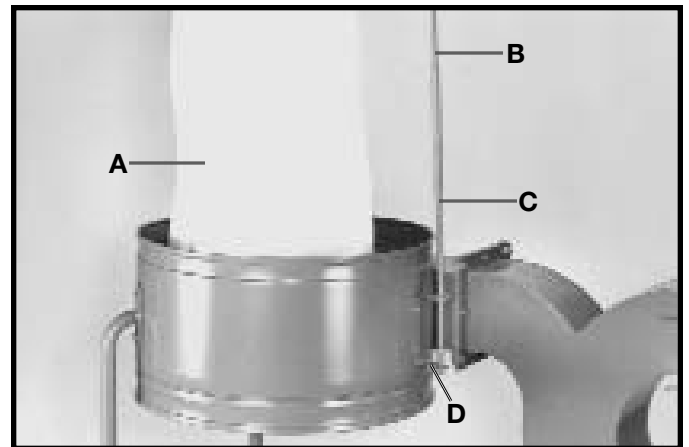

Fig. 23
2. Assemble extension rod (C) Fig. 23, into the end of filter bag support rod (B). Raise support rods (B) and (C), with filter bag (A) attached and place end of extension support rod into holes of bracket (D). **NOTE:** Flared end of filter bag extension rod will prevent the rod from sliding through bracket.